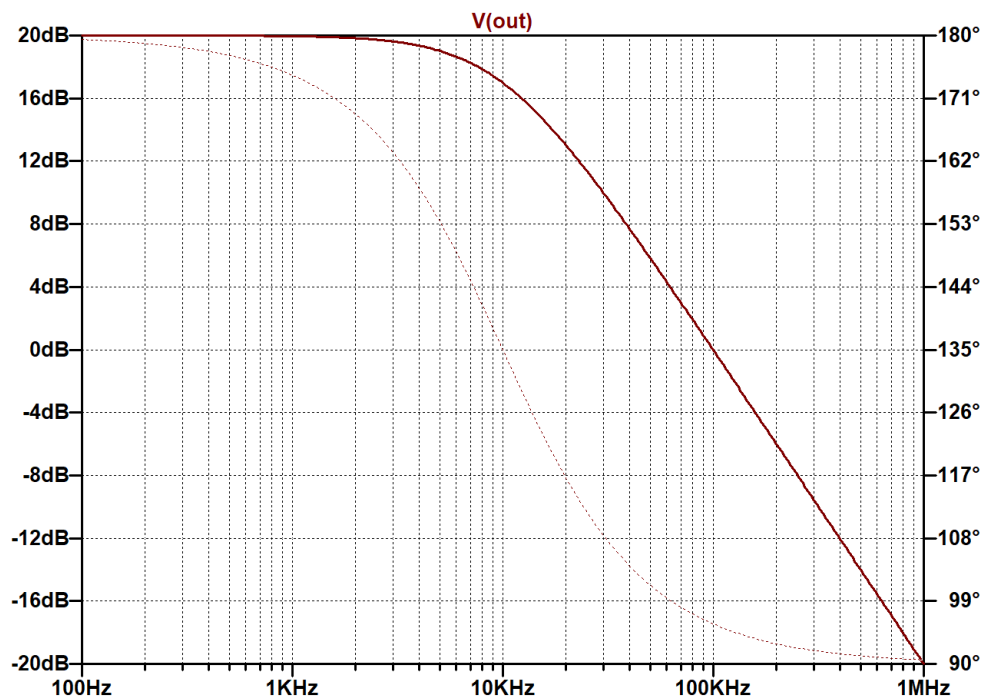

Fig. 10. Lowpass filter frequency response.
- Left click on the output node voltage then left click OK. Plots of the output magnitude and phase will appear as shown in Fig. 10.